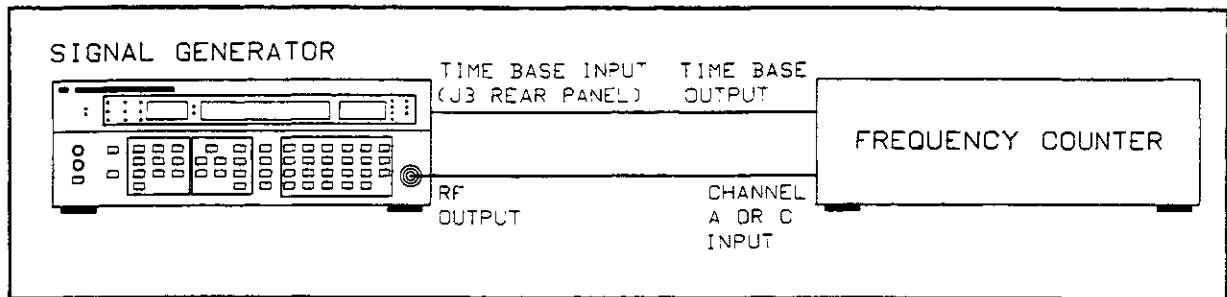

Figure 4-11. DC FM Test Setup
27. Connect the RF OUTPUT from the Signal Generator to the INPUT of the frequency counter, and connect the Signal Generator TIME BASE INPUT to the Frequency counter TIME BASE OUTPUT as shown in Figure 4-11.
Figure 4-11 shows the RF Pulse as displayed on the oscilloscope. The Delta V markers are the approximate 10 and 90% Levels of the pulse envelope. The reading  $\Delta t$  is the Rise Time.